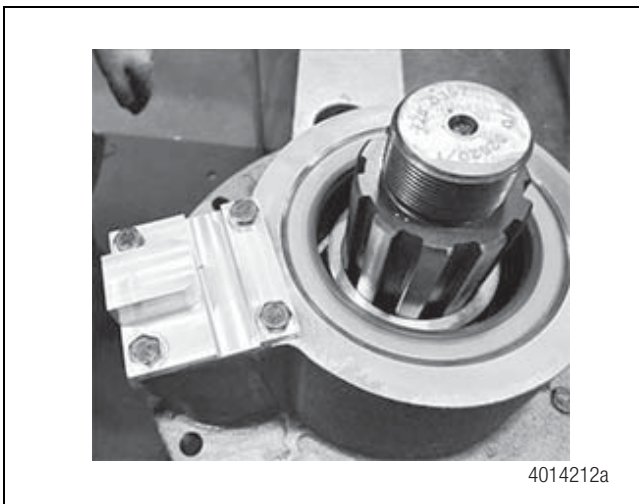

Figure 6.23
15. Screw in the shift cylinder cap using four cap screws again using Loctite 272 or equal. Figure 6.23.